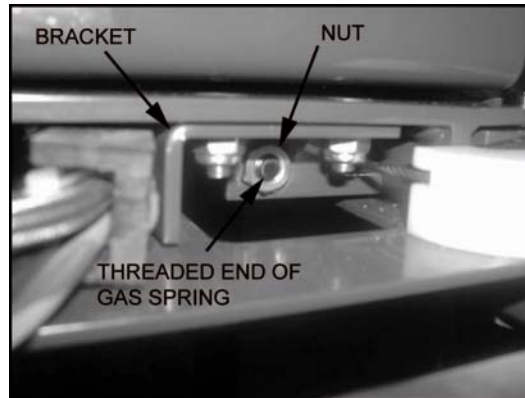

FIGURE 3-25
12. Refer to **Figure 3-25**. Align threaded end of gas spring into bracket hole then fasten to baseplate with nut.